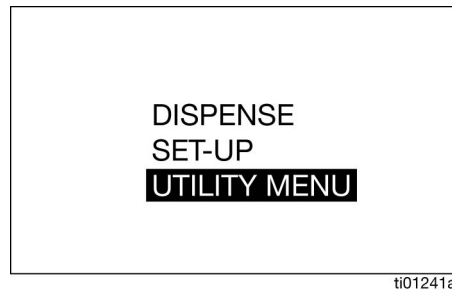

FIG. 14
- Select the UTILITY MENU option (FIG. 14).